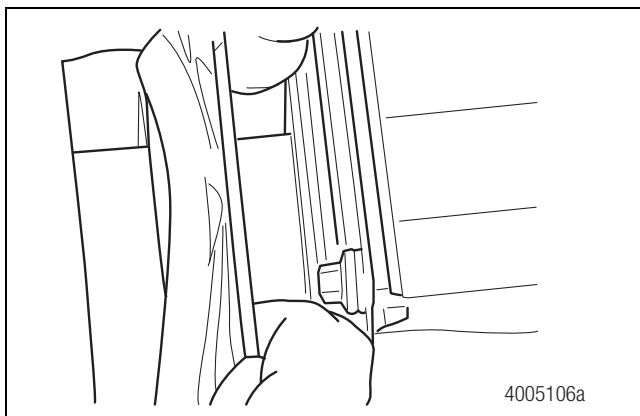

**Figure 5.14**
- Carefully install the piston boot into the piston head groove. Verify that the boot is correctly seated in the piston head groove. Figure 5.14.